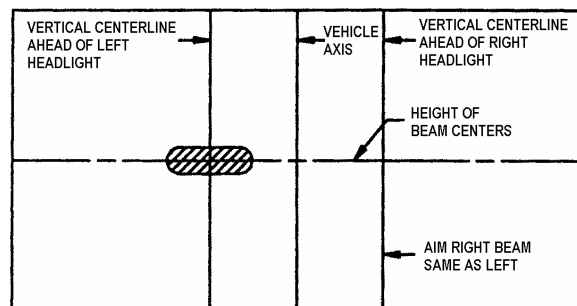

FIGURE 32: HIGH-INTENSITY ZONE (SHADED AREA) OF A PROPERLY AIMED UPPER BEAM ON THE AIMING SCREEN 7.6 M (25FT) IN FRONT OF VEHICLE
5. High beam headlights are aimed so that the center of the high-intensity zone is located at the horizontal and straight ahead vertically (Fig. 32).